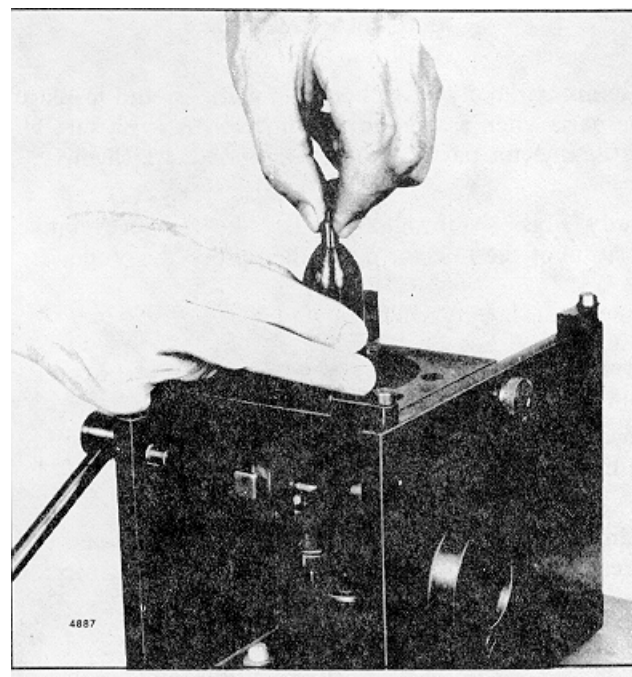

Fig. 39 Tightening Injector Nut by Hand
7. Lubricate the threads in the injector nut and carefully thread the nut on the injector body by hand. Rotate the spray tip between your thumb and first finger while threading the nut on the injector body (Fig. 39). Tighten the nut as tight as possible by hand. At this point there should be sufficient force on the spray tip to make it impossible to turn with your fingers.